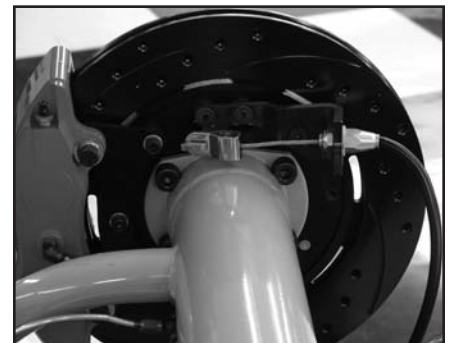

Figure 7
- Slide slot in clevis over the parking brake lever. Slide cable end fitting into the slot on the cable stop bracket and snug down the supplied 7/16" lock nut, Figure 7. **NOTE:** It is recommended that you use anti-seize lubricant on all aluminum nuts.